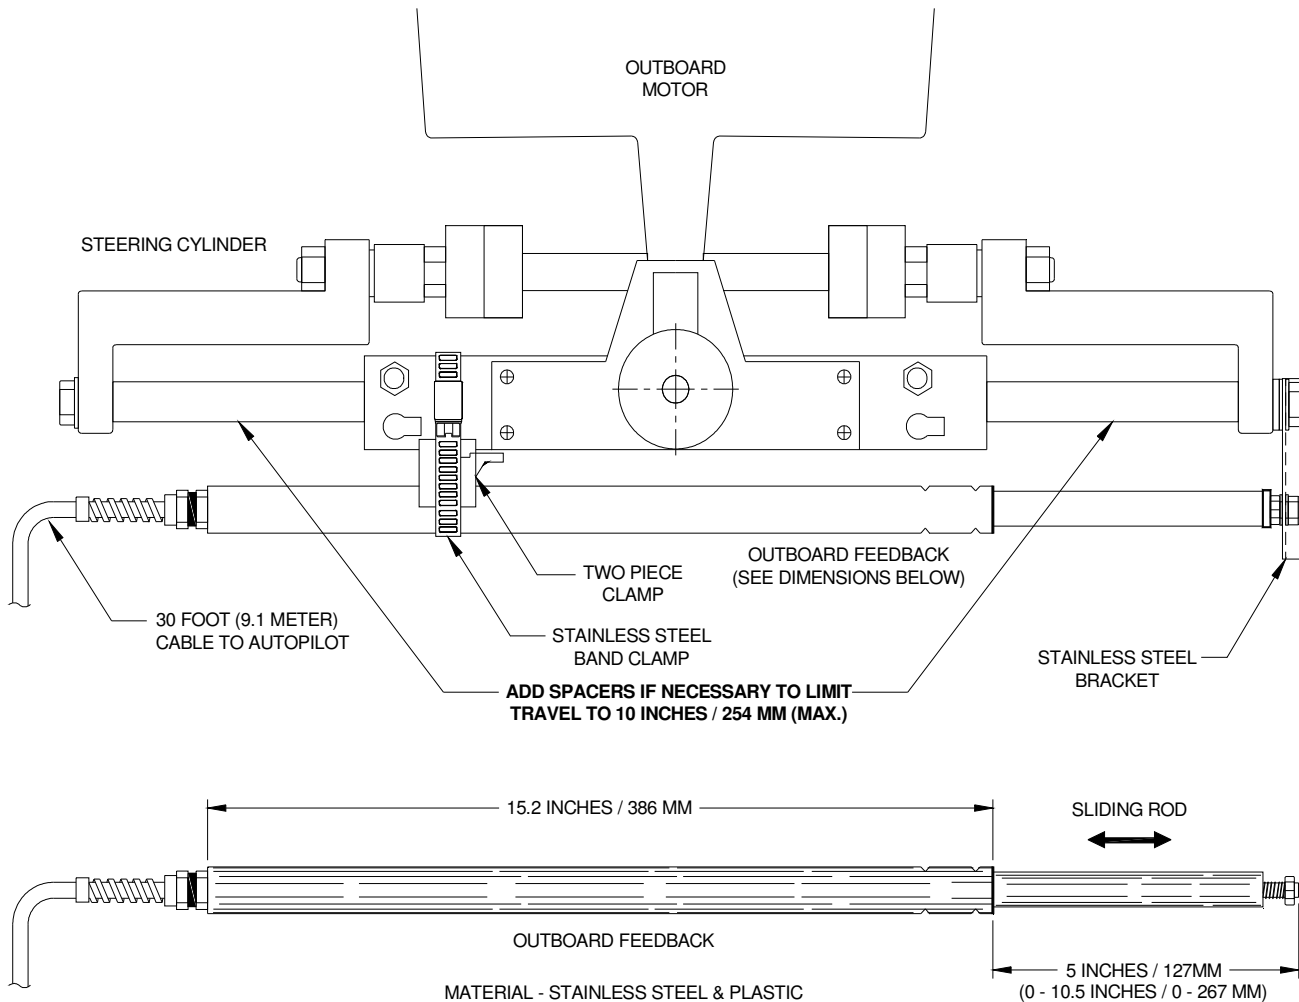

Figure 9 – Typical Arrangement of Linear RFU on an Outboard's Steering Cylinder
- 2) Carefully measure the travel of the outboard motor's steering cylinder. It must not exceed 25.4 cm (10"). If it is more than that, corrosion resistant spacers will need to be fabricated to go over the rod of the hydraulic cylinder to limit its travel (see Figure 9).
- 3) The clamps and band should be positioned as far as possible towards the end of the Linear RFU which has the cable that goes to the autopilot (see Figure 9). Loosely place the stainless steel band clamp around the Linear RFU and the outboard's steering cylinder.